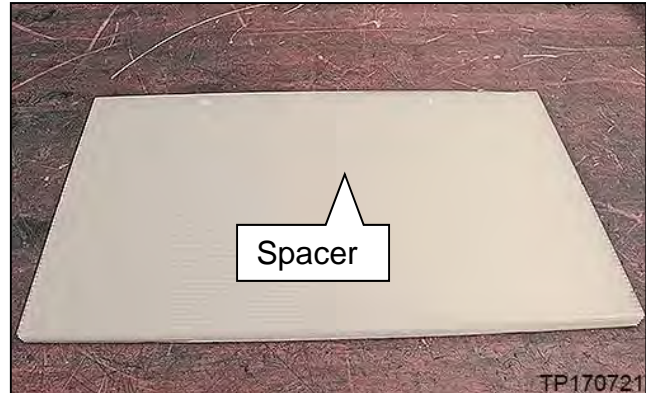

Figure 141
**HINT:** Step 112 is for kits that have a separate spacer (Figure 141). In later kits this spacer will be part of the lower board and step 112 will not be used.
112. Take the spacer (Figure 141) out of the shipping box and place on the work bench where the sub-assembly will be installed, and then place the lower board on top of the spacer as shown in Figure 142.